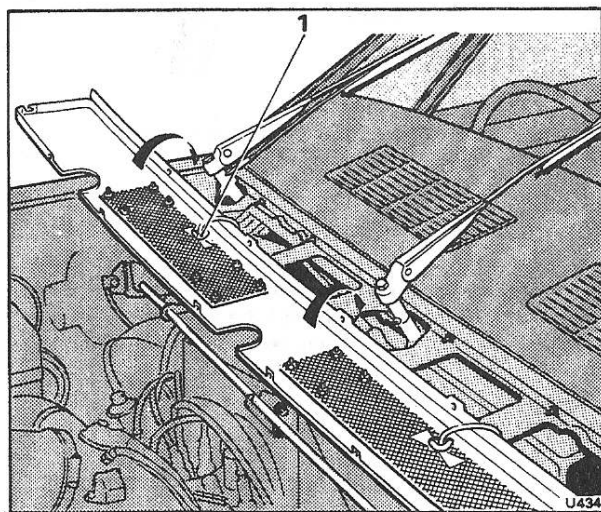

Fig. S122 Removing an air intake grille panel (Camargue)
**Air intake grille panel — To remove (see Fig. S122)
Air intake grille panel — To fit (see Fig. S122)**Camargue**